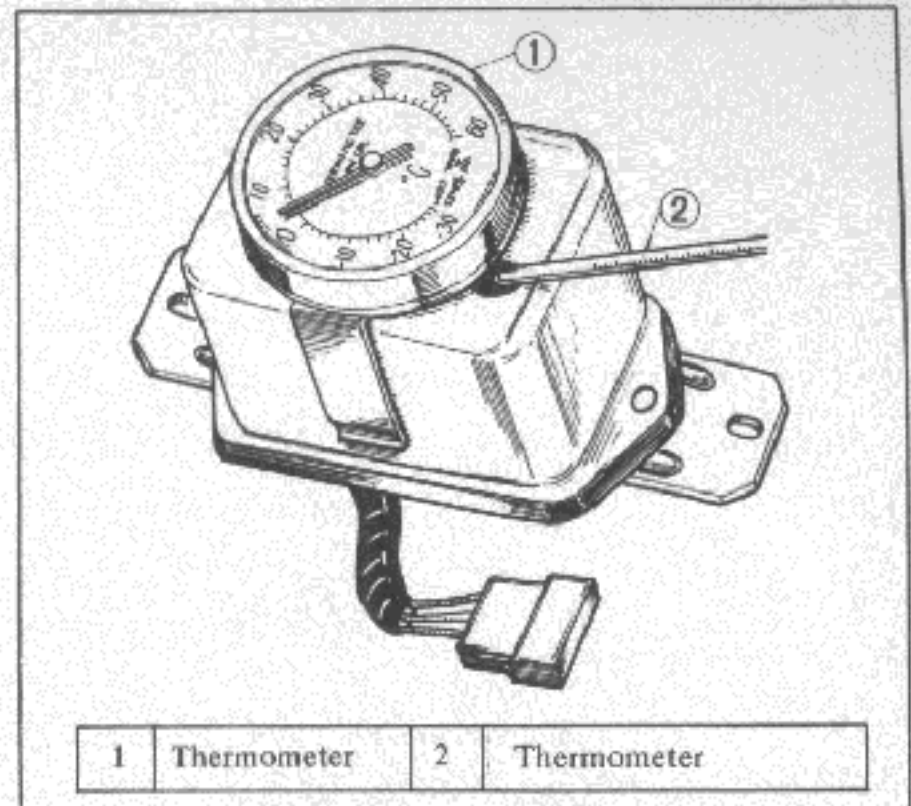

Fig. EE-53 Measuring of regulator cover temperature
2. In the over temperature compensated regulator, it is necessary to check the temperature of the regulator cover as the regulating voltage is varied according to the surrounding temperature. In this case, use the thermometer or cylindrical thermometer with putty as shown in Figure EE-53.